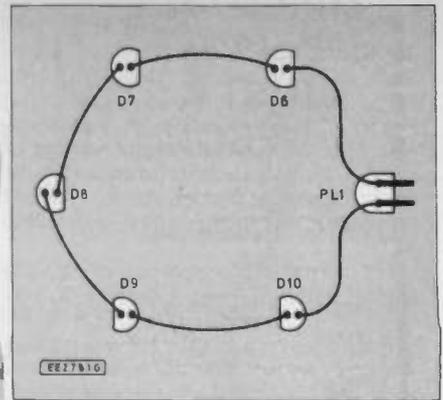

Fig. 5. Wiring up the I.e.d.s to form a display chain.
I.e.d.'s to about 3mm and connect them up in series, observing the polarity of each one, as shown in Fig. 5 using thin single core flex. Insulate the connections on each I.e.d. using Araldite or hot adhesive from a glue gun. Connect the two free ends to PL1 and plug into the main unit.